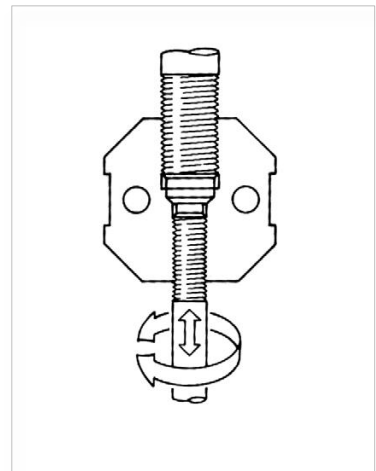

Fig. 10: Stem clamp, connection between actuator and valve stem
8. Fine adjustment may be made (with the plug off the seat) by slightly slackening the plug stem towards or away from actuator stem (Figure 10) using spanners fitted to the flats provided on both stems for this purpose.
The valve stroke is adjusted simply by altering the distance between the end of the plug stem and actuator stem within the split stem clamp (Figure 10).